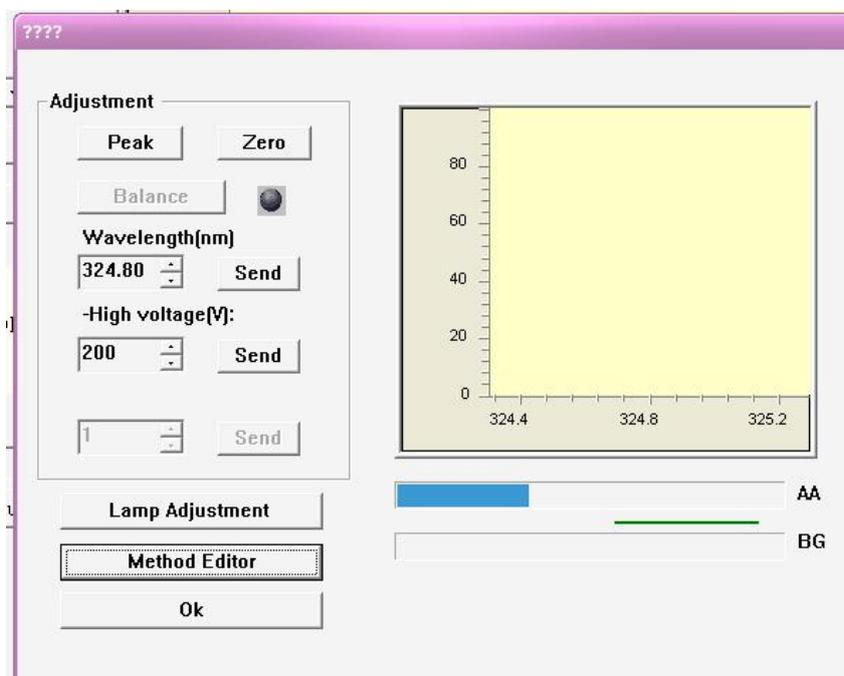

Figure 4-43
1. Press "Adjustment" button, pop up a dialoge box(Figure 4-43)